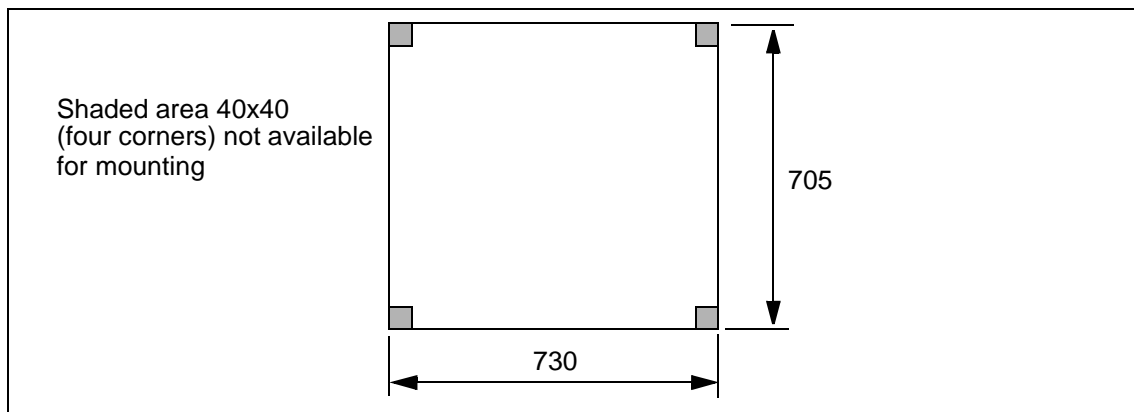

Figure 36 Mounting plate for mounting of equipment (dimensions in mm)
- 124*** The extension is mounted on top of the standard cabinet. There is a mounting plate inside. (See Figure 36).